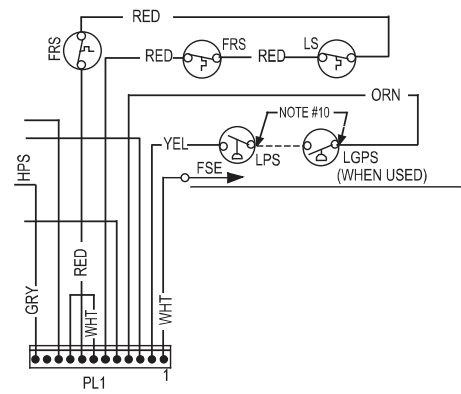

Fig. 13 - Pressure Switch Wiring
2. Connect the orange wire from the Low Heat Pressure Switch to the orange wire with the insulated male spade terminal. See Fig. 13.